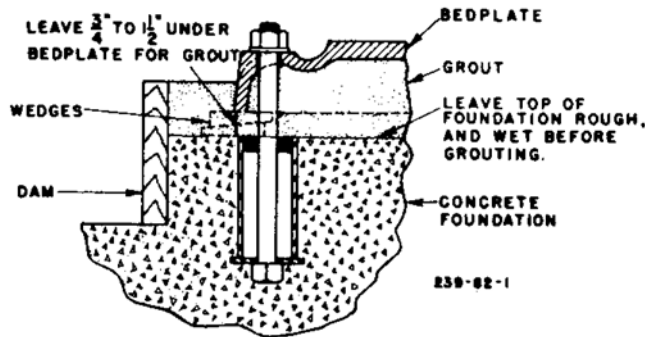

Figure 2: Foundation bolts
3. The foundation bolts should be of sufficient length so that they project through the nuts approximately $\frac{1}{4}$ " after allowance has been made for grouting ($\frac{3}{4}$ " to $1\frac{1}{2}$ "), the thickness of the bedplate, and the thickness of the foundation bolt nut. See Figure 2: Foundation bolts on page 10.
1. Build wood dam around foundation as shown in Figure 2: Foundation bolts on page 10 and wet top surface of concrete foundation thoroughly.